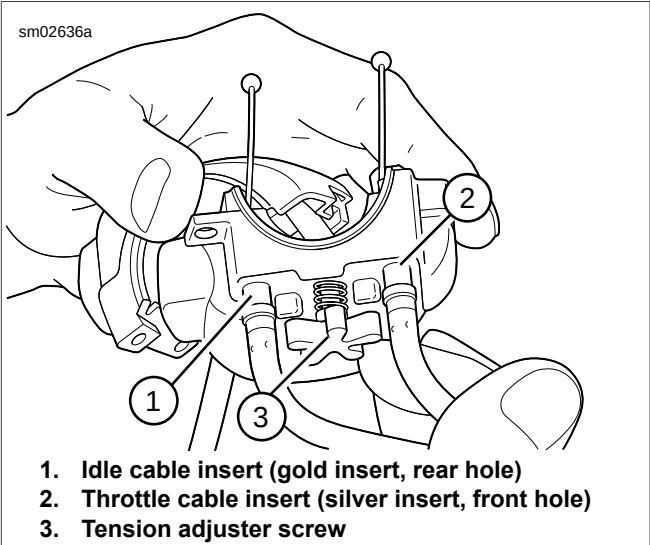

Figure 6-143. Right Lower Module Housing
1. See Figure 6-143. Push the throttle and idle control cables into the lower switch housing until they snap in place. Note the different diameter inserts crimped into the end of the throttle and idle cable housings.
- a. Push the silver insert (2) of throttle cable housing into the hole in front of tension adjuster screw (3).
- b. Push the gold insert (1) of idle cable housing into the hole at the rear of tension adjuster screw (3).